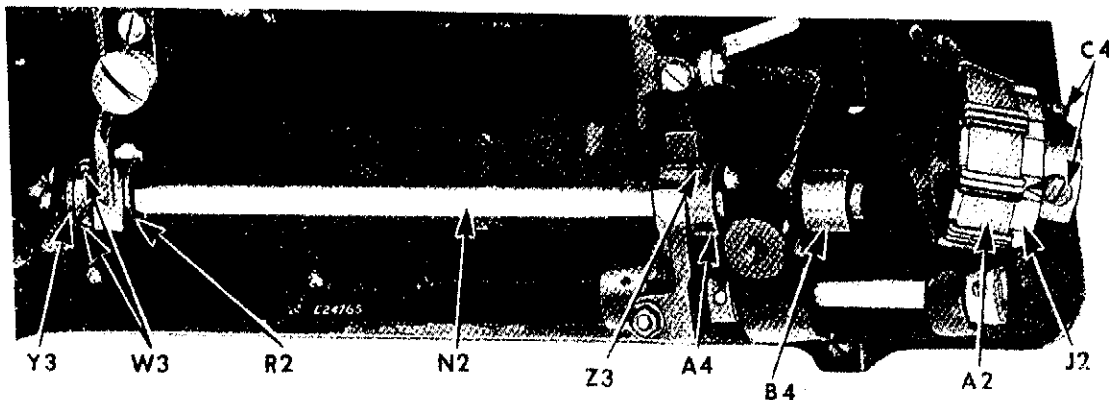
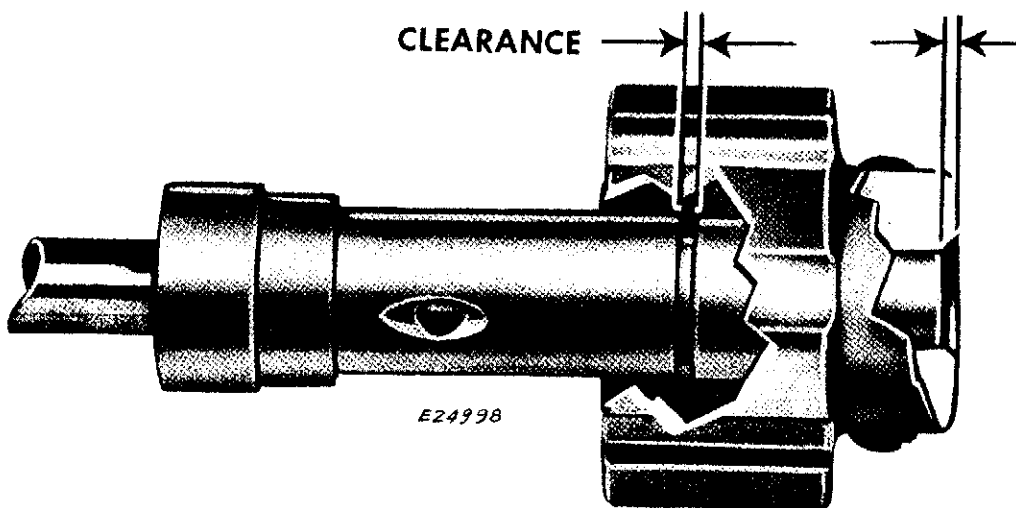

Fig. 52. Removing Sprocket and Hook Driving Shaft
Fig. 56. Lower Sprocket Clearance for Heat Expansion
Sprocket set too close to rear bearing bushing. See **Fig. 56**.
Never take up end play by bringing feed advance eccentric **A4**, **Fig. 52** against rear leg bearing.
2. Loosen sprocket screws **C4, Fig. 52**.
3. Mount feed advance eccentric with collar **A4, Fig. 52**. Collar must be set close to fork without rubbing against jaw of fork to avoid binding of machine from heat expansion.
NOTE: To avoid binding at end of bushing **B4** and sprocket **J2**, due to heat expansion, see **Fig. 56**.
NOTE: The end of hook driving shaft, toward the lower sprocket containing belt **A2**, **Fig. 52**, must be flush with the inside edge of the countersinking of the lower belt sprocket shaft hole to allow for 1/16 to 3/32 inch clearance for heat expansion as shown in **Fig. 56**.